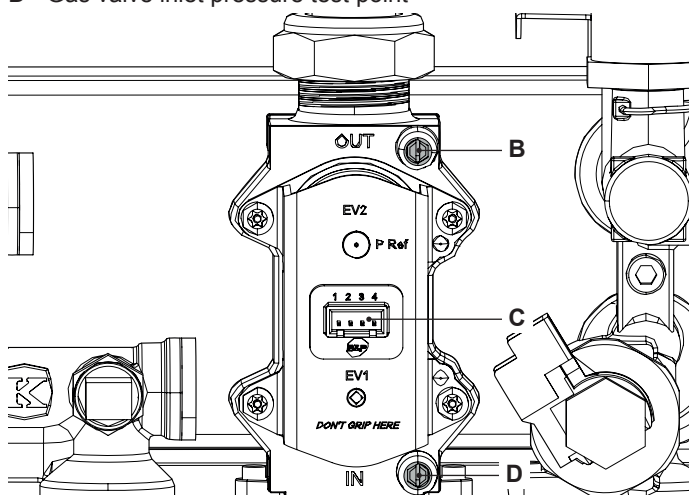
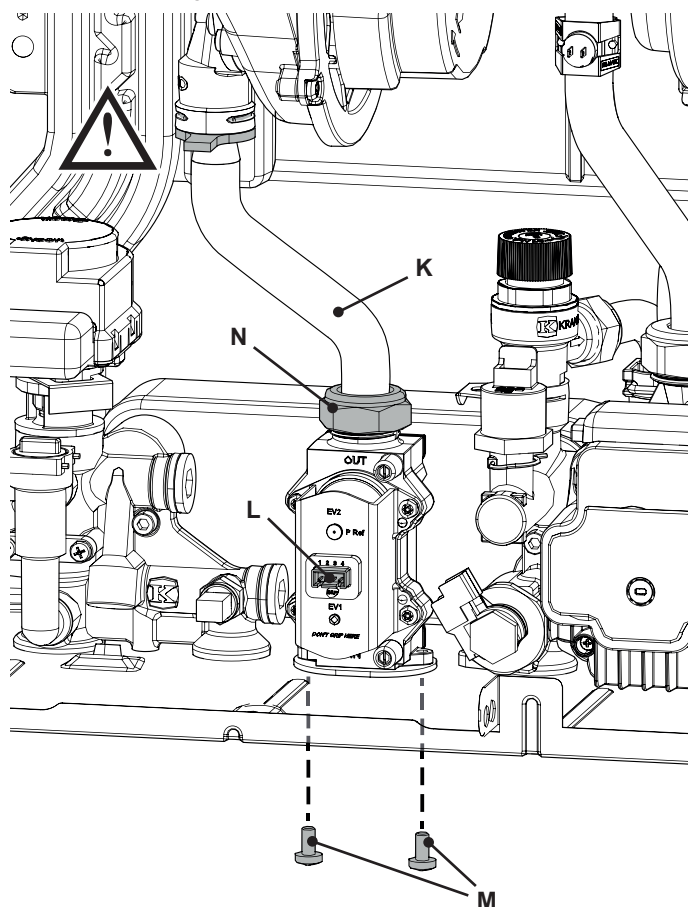

Figure 11.2
Figure 11.15
(Figure 11.2)
- 3 Loosen the internal screw on the Inlet Pressure Test Point "D" (Figure 11.2) of the Gas valve and connect a pressure gauge using a suitable hose.
- 7 Disconnect the pressure gauge and close the Inlet Pressure Test Point "D" (Figure 11.2).
- 2 Disconnect the electrical connector "C" (Figure 11.2).
- 2 Disconnect the connector "L" (Figure 11.15), see also connector "C" (Figure 11.2).
- 4 Unscrew the connector "N" (Figure 11.15) and remove the pipe "K".
- 5 Unscrew the screws "M" and remove the valve (Figure 11.15).